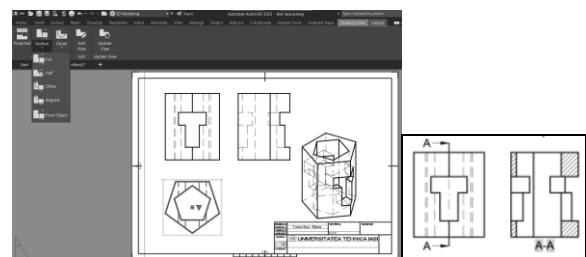

Figure 15 Section View FULL
- For the second object, the polygonal prism, the Section View Full is the best section type, as shown in Figure 15.